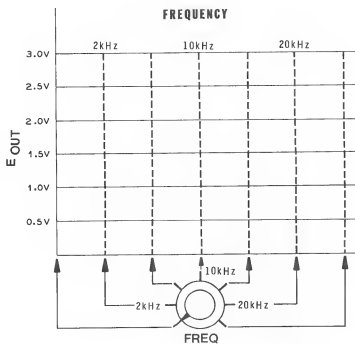
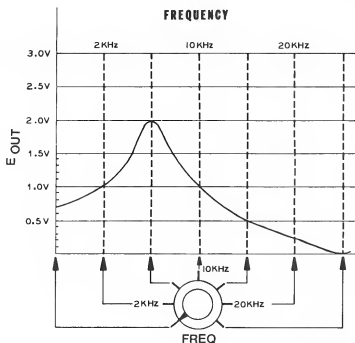

Figure 2-90
Figure 2-97
17. Connect the voltmeter across R_2 (not R_1). Using the above procedure plot the response curve for this circuit. Use the graph in Figure 2-90 to plot the curve.
In step 16 you assembled the circuit shown in Figure 2-89. You plotted its response curve in Figure 2-90. A typical response curve is shown in Figure 2-97. Your curve should be similar. You will recognize that this is the response curve of a band-pass filter.